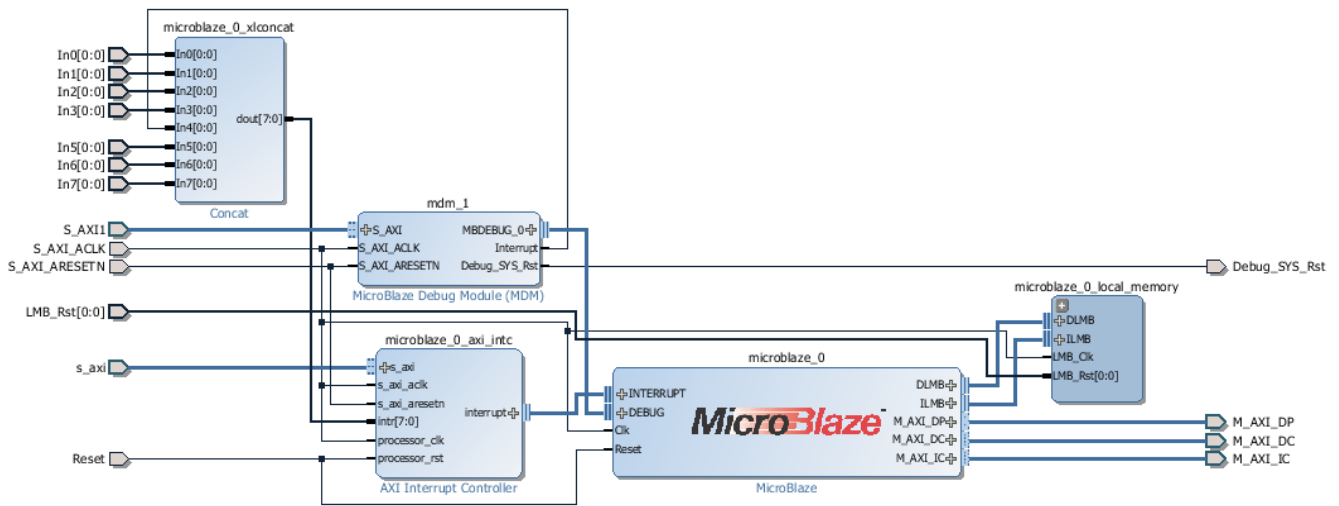

Figure 4: Xilinx MicroBlaze processor subsystem.
- Processor block includes MicroBlaze processor with BRAM block for the initial boot. See Figure 4.